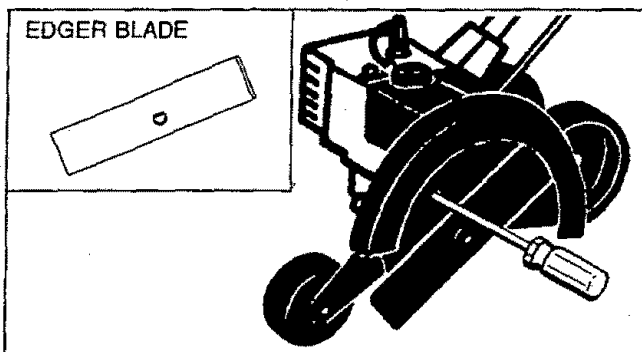

Figure 13
CHECK OR REPLACE BLADE (Fig. 13)
- Bind the blade by inserting a screwdriver into the hole in the gearbox. Fig. 13. Then, remove the nut, washer, and blade from the blade shaft.